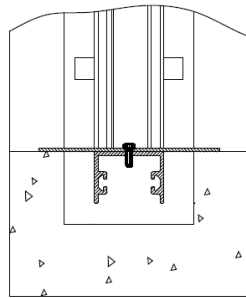

Figure 3
- Align the unit vertically and make sure that the frame is flush with the invert of the channel. The frame includes two threaded holes, which must be used to secure vertical alignment supports (see Figure 3). Note that the supports are not supplied, unless otherwise specified (two metal or wooden plates are required)
- Align the unit horizontally and make sure that the Frame Guide is flush with the channel side wall. Additionally, make sure that the gate is perpendicular to the side walls of the channel (See Figure 3). For aluminum frames, use wooden wedges to center the unit in the recess. As an option, stainless steel frames include "Lateral Centering Fittings". In that case, adjust the hex bolts for centering the frame